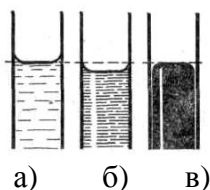

Figure 4. Position of the meniscus.
*Graduated flasks* are flasks with the elongated neck with a mark on it in the shape of a thin ring that defines the volume of a flask. Graduated flasks are used for preparing solutions of exact concentration. There exist 25, 50, 100, 200, 250, 500, 1000 ml flasks. The level of a liquid in the cylinders, pipettes, burettes can be defined by the mark (Fig.4).